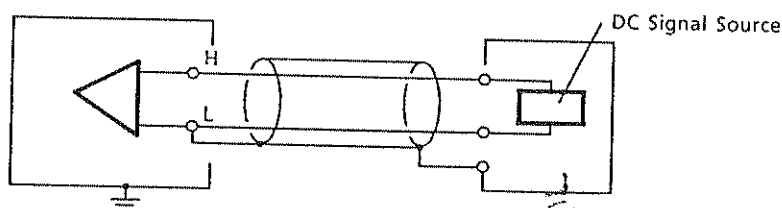

Figure 4.3 Interconnections for DC V measurement
- (1) Connect leadwires to the input terminals (high voltage to Hi, low voltage to Lo). The polarity indication will be “-” when the Hi terminal is negative. See Figure 4.3 for interconnections.
- (2) When a voltage is measured repeatedly in the same measuring range, set the manual range mode and select an appropriate range.
① Interconnections for General Use
② High-accuracy Measurement